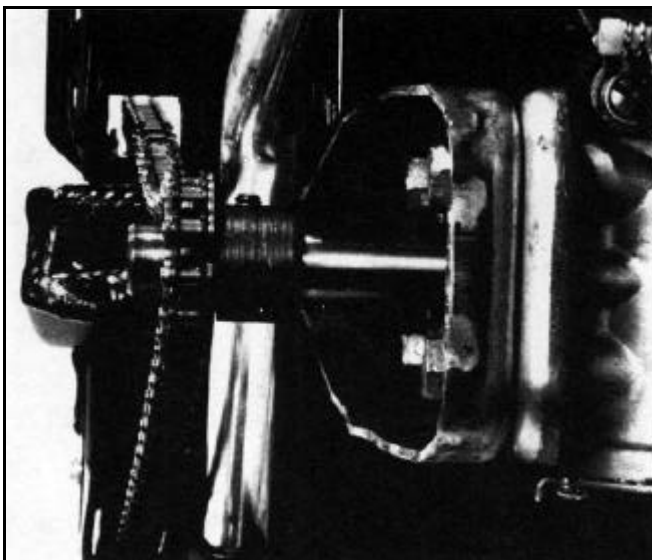

Figure 112 0217-063
6. From the rear of the unit, visually align the crankshaft sprocket and chain with the impeller sprocket. Once the sprocket and chain have been installed (Figure 112) it is essential the chain be aligned properly. If not, crankshaft or sprocket damage will occur. **Note:** Figure 112 shows an improperly aligned chain and sprocket.